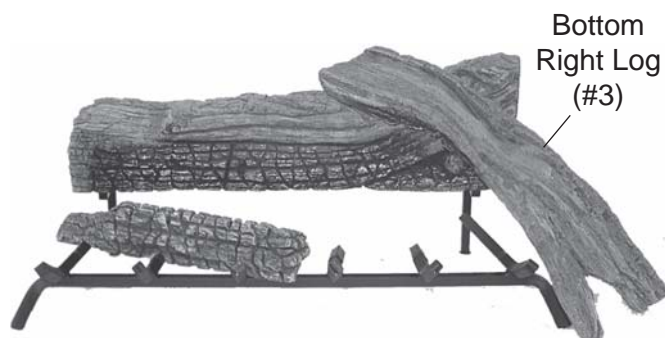

Figure 86 - Placing Bottom Right (#3) Log on Grate
4. Place end of Bottom Right Log #3 on cutout of back log #1. Rest other end of right bottom log to the outside of right grate prong. *See Figure 86.*